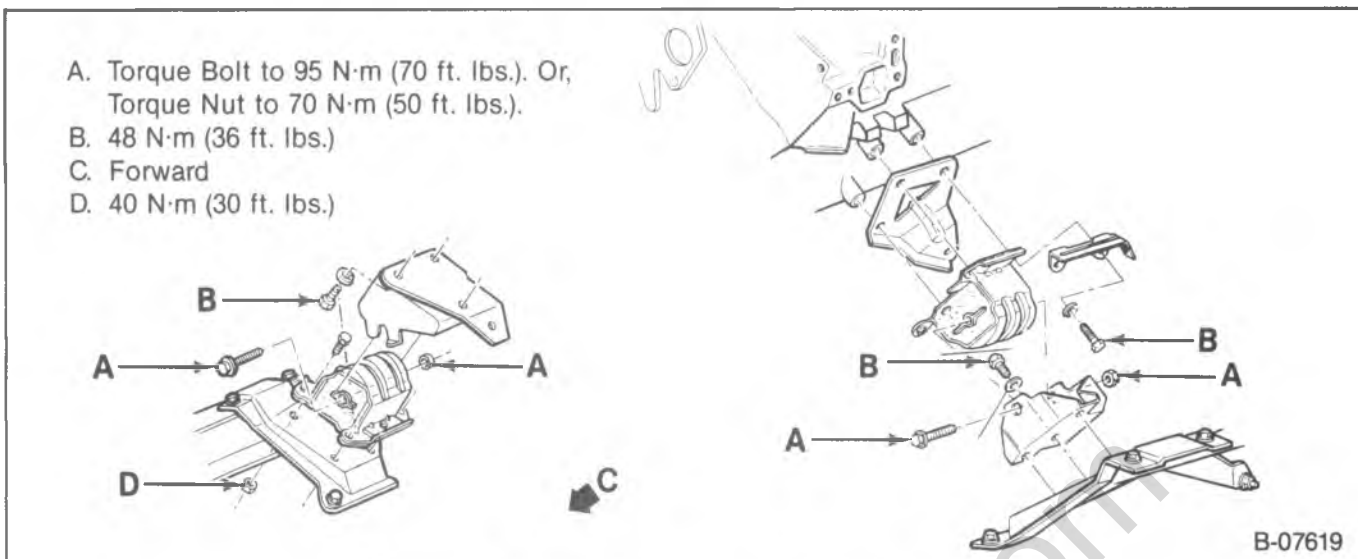

Figure 36—Front Engine Mounting (R and V Models)
➔➔ Remove or Disconnect (Figures 36 and 37)
➔➔ Install or Connect (Figures 36 and 37)
- Fasteners to specifications. Refer to figures 36 and 37.
- Through-bolt or nut to specifications. Refer to figures 36 and 37.
Install or Connect (Figure 36)
- Fasteners to specifications. Refer to figure 36.